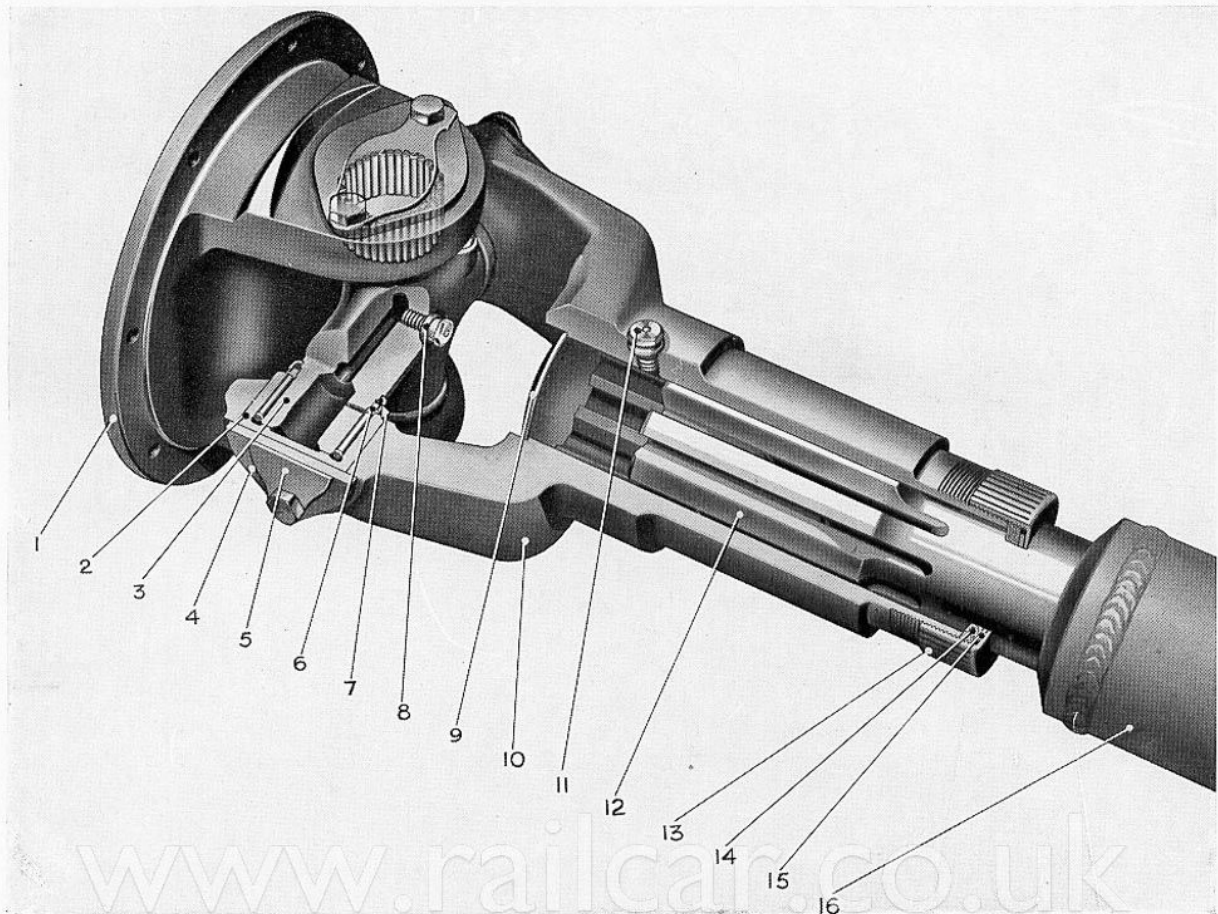

FIG. 2. SECTION THROUGH SPICER UNIVERSAL JOINT
1. Unscrew the dust cap (13) Figs. 2 and 3, from the sleeve yoke, and pull the complete sliding joint off the shaft.